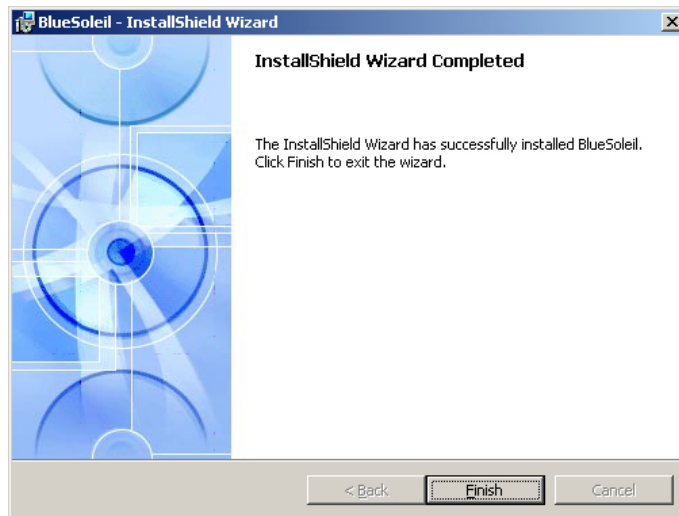

Figure 7-53: Bluetooth Driver Complete Installation Screen
Step 17: When the installation process is complete, the Setup Complete screen appears. See Figure 7-53.